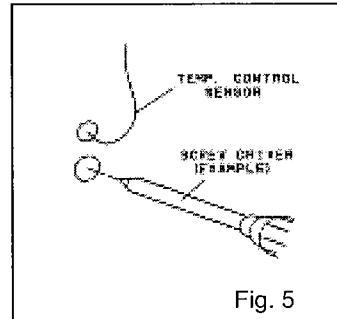

Fig. 5
9. Pass through the hole under the temperature control sensor. (Fig. 5)